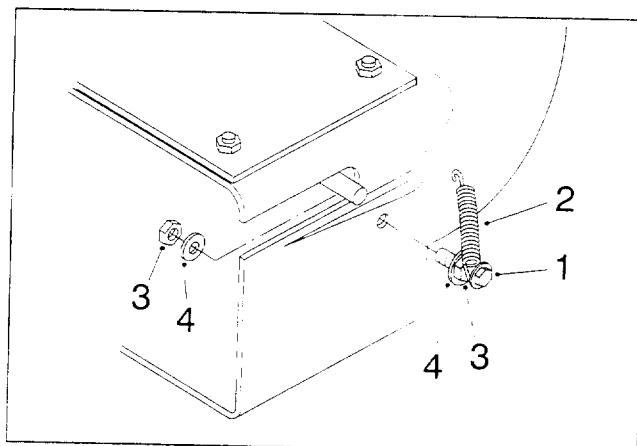

Figure 4
4. Insert a $\#10 \times 3/4"$ screw through the extended loop at the end of the tension spring (Fig. 4). Screw one $\#10$ nut to within $1/8$ inch (3.2 mm) from the screw head, allowing the spring to pivot freely (Fig. 4).
5. Slide one $7/32"$ flat washer onto the spring and screw assembly (Fig. 4). Insert the screw through
the hole in the blower housing from the outside and secure in place with another flat washer and nut (Fig. 4). Tighten the nut.